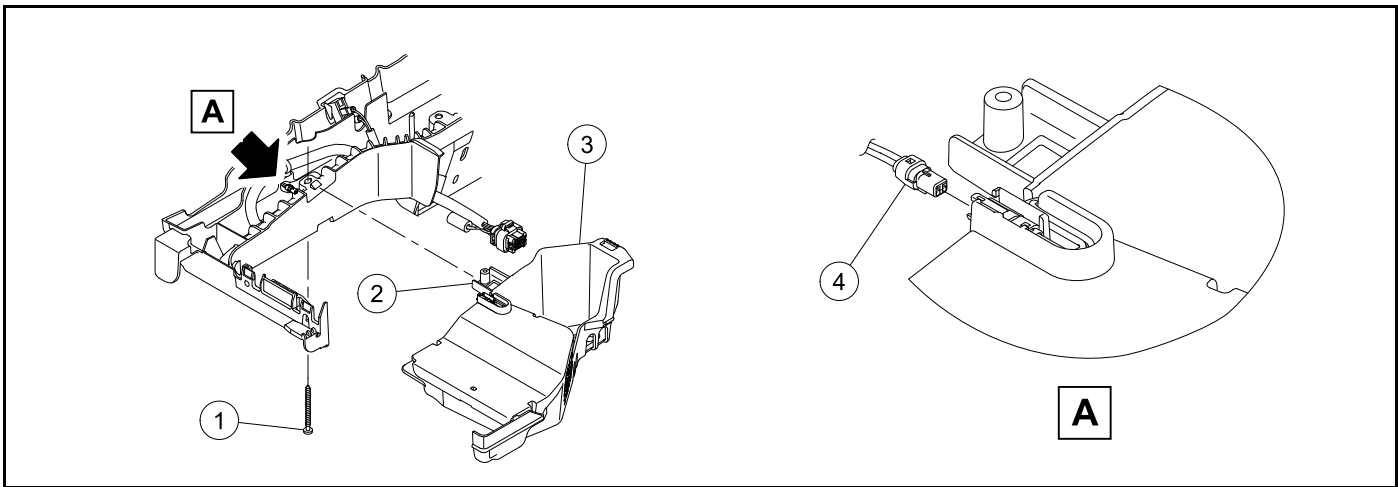

Figure 4-15 Overhead Speaker Basket
1. Remove the screw (1) (Figure 4-15, Page 4-20).
1. Connect the electrical connector (4) (Figure 4-15, Page 4-20).
2. Align the overhead speaker basket (3) with the display unit support.
3. Push the overhead speaker basket forward until the tab (2) locks.
4. Install the screw (1). Tighten the screw to 17.7 lb-in (2.0 N·m).